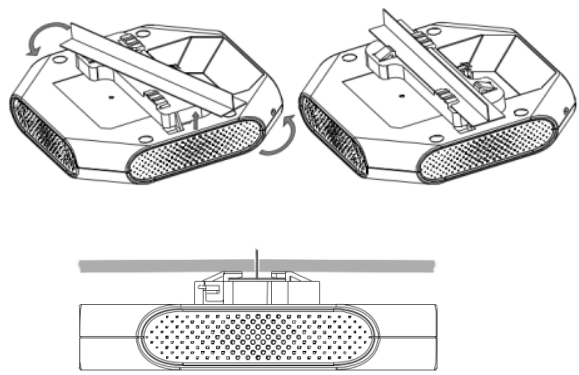

Figure 5: Mounting AP
- Hold the AP next to the ceiling tile rail with the ceiling tile rail mounting slots at approximately a 20-degree angle to the ceiling tile rail (see Figure 5). Make sure that any cable slack is above the ceiling tile.
- Pushing toward the ceiling tile, rotate the AP clockwise until the device clicks into place on the ceiling tile rail (see Figure 5).